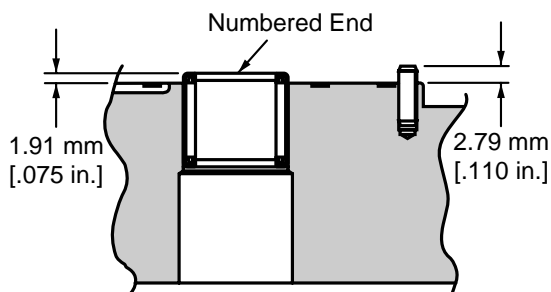

Figure 1-3
- Check the bearing (press fit) in backplate. If needles remain in cage, move freely, and setting is at the dimension shown in figure 1-3, removal not required.
- Check roll pin in backplate. If tight and set to the dimension shown in figure 1-3, removal not required.
- 10 If necessary, press new bearing and roll pin in backplate to dimension shown in figure 1-3. Bearing installed with the numbered end outward. Roll pin installed with split oriented away from bearing.